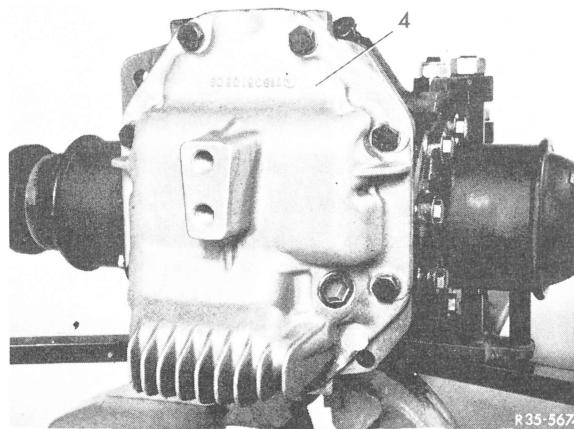

Fig. 2
- 3 Unscrew end cover from rear axle housing (Fig. 2).